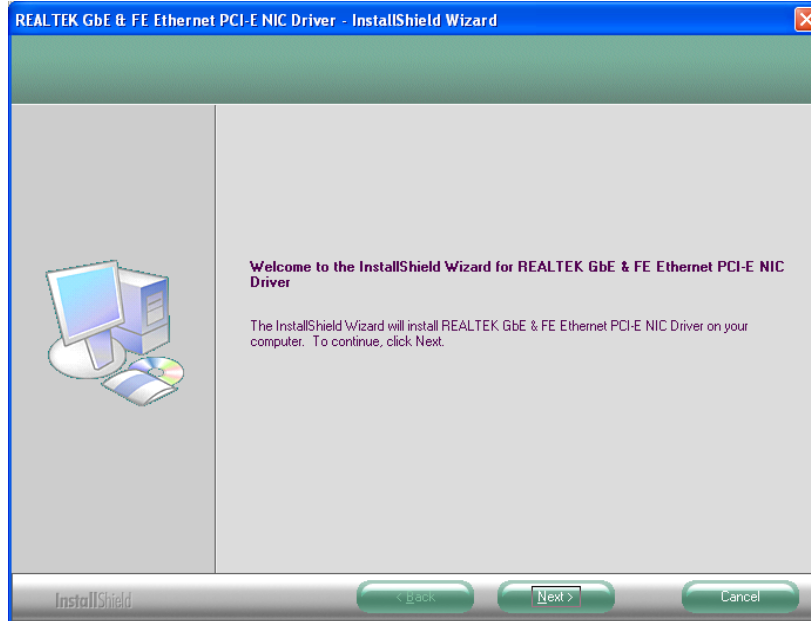

Figure 6-17: LAN Driver Welcome Screen
- Step 3:** The **Welcome** screen in **Figure 6-17** appears.